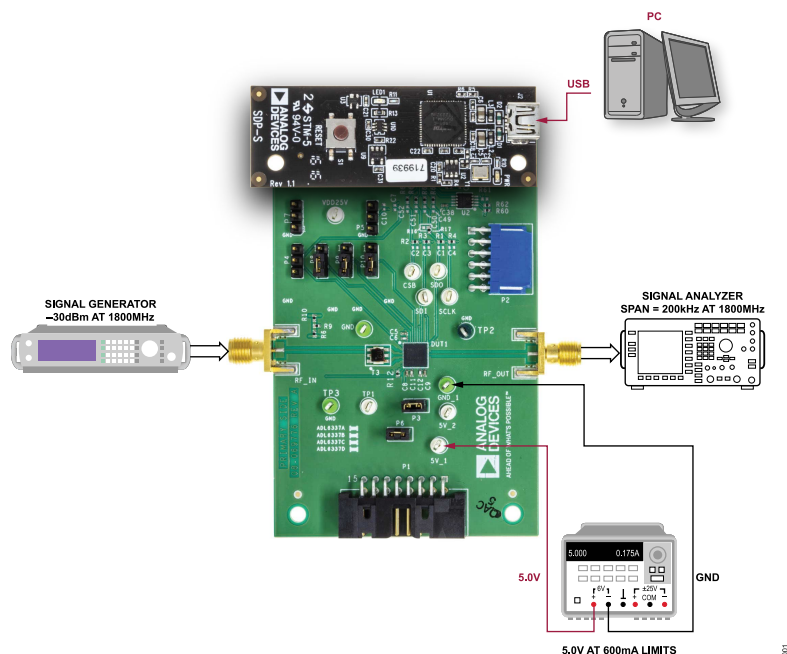
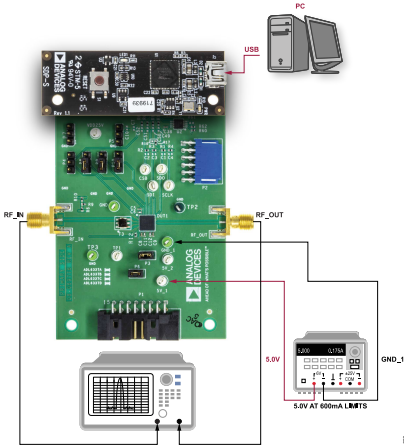

Figure 1. ADL6337-EVALZA/ADL6337-EVALZB/ADL6337-EVALZC/ADL6337-EVALZD Typical Measurement Setup (Option 1)
Figure 6. ADL6337-EVALZA/ADL6337-EVALZB/ADL6337-EVALZC/ADL6337-EVALZD Measurement Setup with Network Analyzer (Option 2)
Network Analyzer	Connect to one port on the network analyzer (see <a href="#">Figure 6</a> )
Signal Generator	Set the source to -30 dBm output signal level. (see <a href="#">Figure 1</a> )
Spectrum Analyzer	Connect to port (see <a href="#">Figure 1</a> )
1. Configure the hardware according to the Hardware Setup section and shown in Figure 1 or Figure 6.